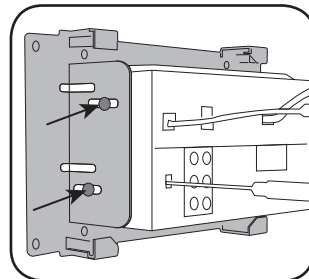

Fig. 1.14
- Unbox the aftermarket radio. Install the metal bracket provided with the VW1 kit to the aftermarket radio using the screws supplied with the aftermarket radio. (Fig. 1.14)